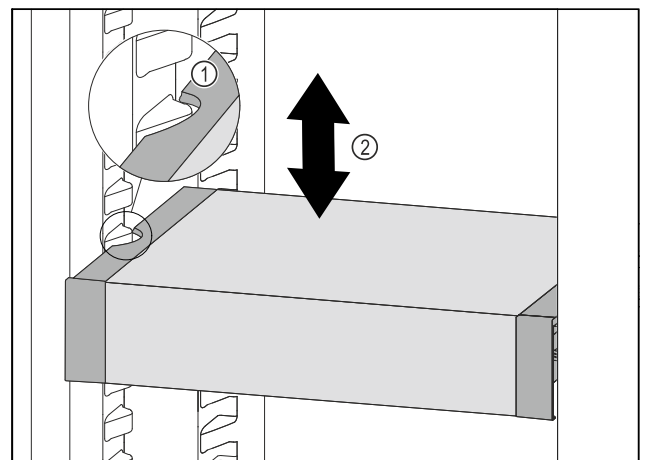

Fig. 173
- ▶ Pull VarioSafe forwards until the recesses in the side of the VarioSafe are at the level of the support rib in the refrigerator compartment. Fig. 173 (1)
- ▶ Move VarioSafe up or down in the refrigerator compartment until the desired height is reached. Fig. 173 (2)